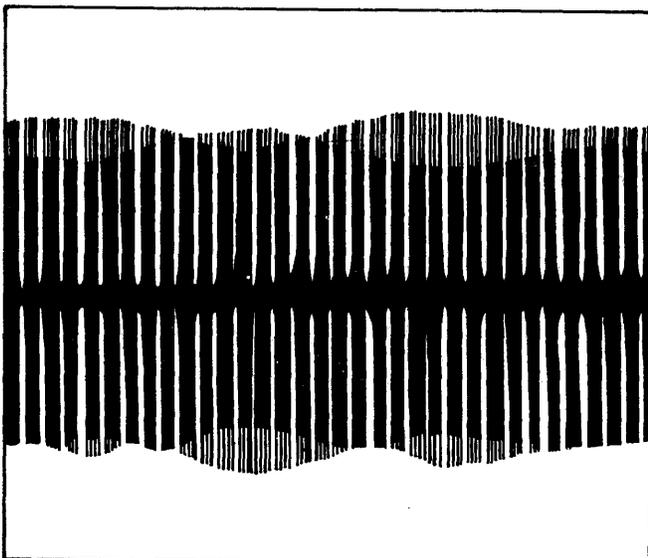

Figure 4-11b. Dibit Pattern-Head Alignment-Correct
13. Continue adjusting the head until the conditions in step 7 are met. Refer to figure 4-11. The trace must look like figure 4-11b.